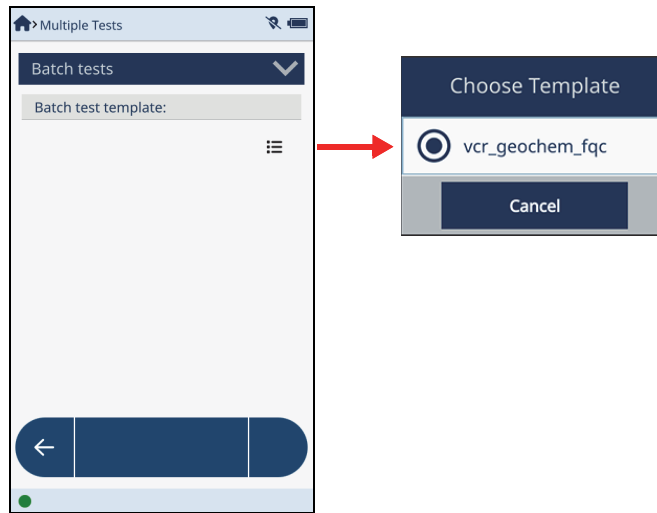

Figure 2-7 Batch Test templates
1. On the **Multiple Tests** screen, select **Batch Test** (see Figure 2-7 on page 29).
2. Tap the **Template** list button () to reveal the available batch templates (see Figure 2-7 on page 29).